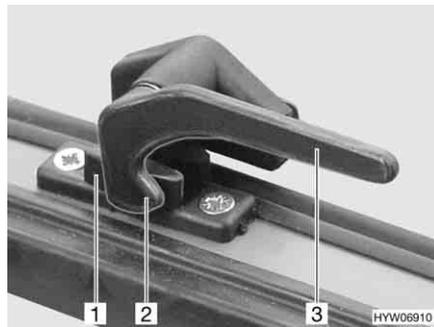

Fig. 56 Catch lever in "closed" position
- Turn the catch lever (Fig. 56,3) a quarter turn towards the centre of the window.
- Turn the catch lever (Fig. 56,3) a quarter turn towards the window frame. The locking catch (Fig. 56,2) is located on the inside of the window catch (Fig. 56,1).
- Firmly closed (Fig. 56)